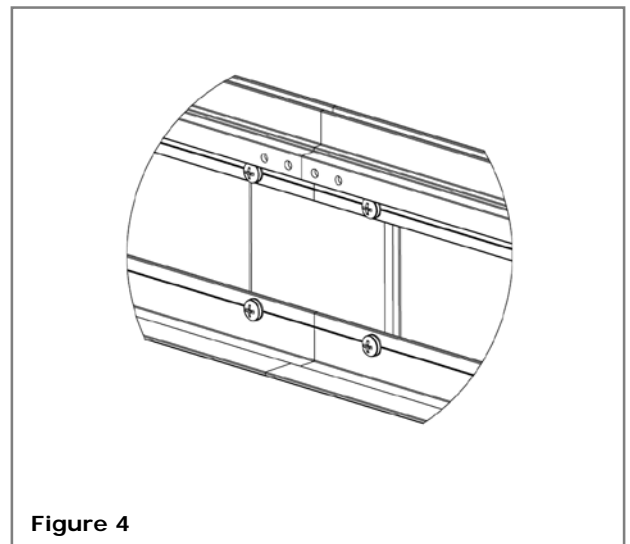

Figure 4
3. Slide on the end of the next section, check for alignment and adjust as needed. Tighten all the screws. **See Figure 4.**